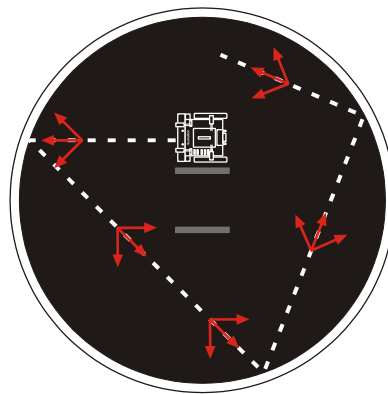

Figure 4-12
Figure 4-12 shows the search pattern. Because your servos may behave differently, it will probably take some tuning to get your SumoBot to perform this search pattern. While this search pattern works reasonably well, there's lots of room for improvement. We'll take a closer look in the Your Turn section.
- ✓ Press and hold the Reset button until you place it on the ring as shown in Figure 4-12.